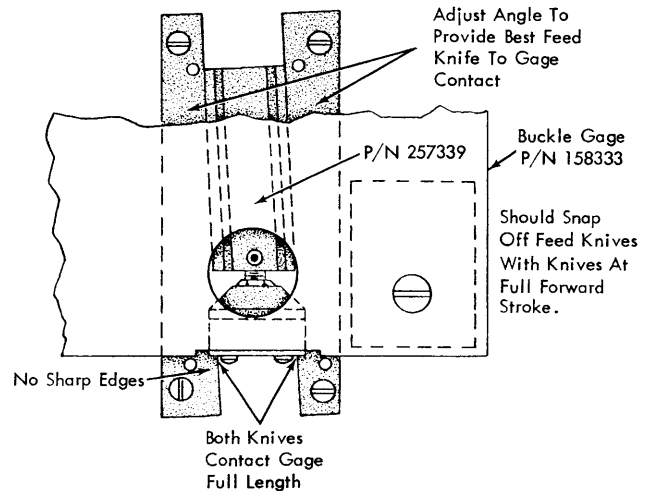

Figure 34. Card Feed Buckle Adjustment
3. *The Card Buckle.* Adjustment must be set with the buckle gage (see Figure 34). The gage should also be used to check that the feed knives are parallel to the feed rolls. The gage should snap off feed knives with knives at their full forward stroke. As shown in the sketch, the feed knife must contact the card along the full length of the knife.